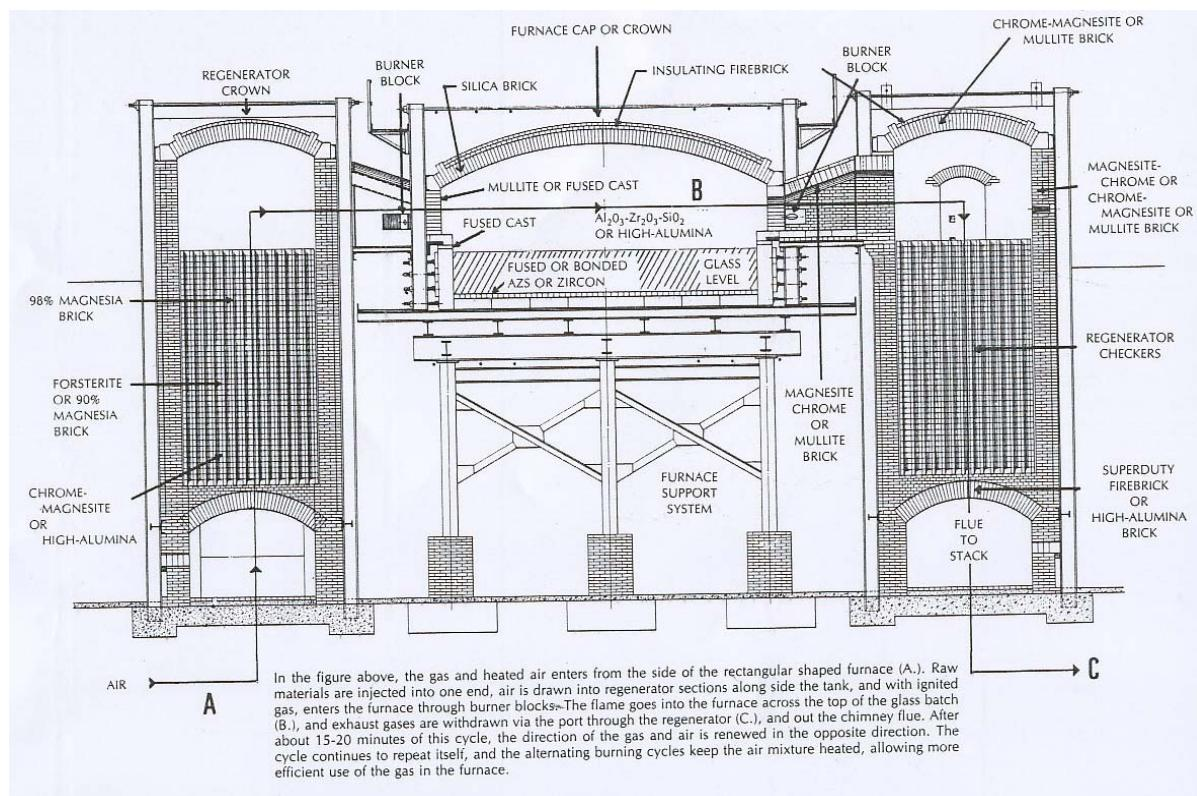

Figure 3: Typical glass tank melting furnace
7. As shown in figure 3, various refractory materials are used in construction of a glass tank melting furnace. Different parts of the tank required different types of refractory material. Based on this figure:-